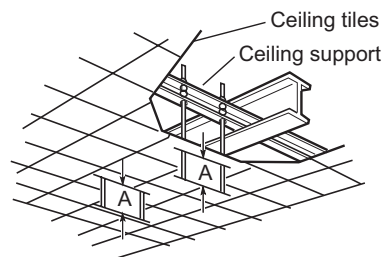

Fig. 2-58
- Use existing ceiling supports or construct a suitable support (Fig. 2-58).